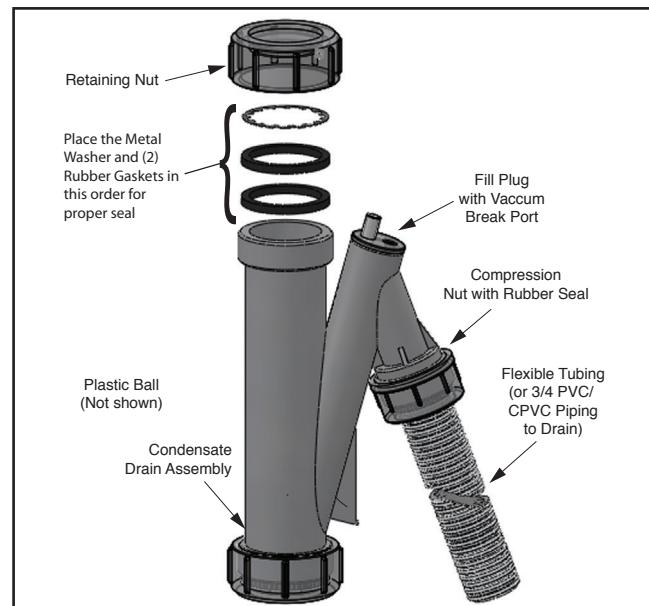

Fig. 1 - Condensate Drain Assembly
1. Ensure condensate drain assembly is firmly secured to bottom of the unit. See *Fig. 1 on the right*.